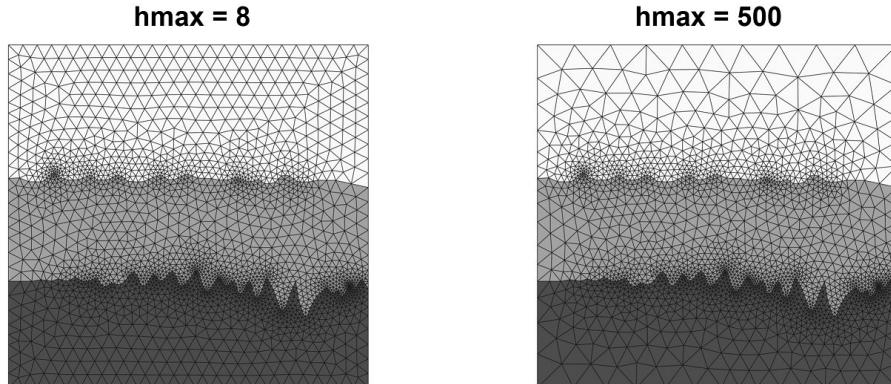

Figure 11: Effect of *Max Mesh-size*
- *Max Mesh-size*: Maximum mesh edge lengths. This is an approximate upper bound on the mesh edge lengths (Figure 11). Type: Float. Range:  $> 0$ .